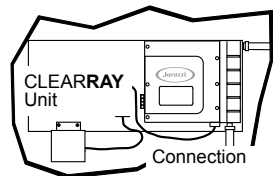

Figure 14.5b
1. Turn the breaker to the spa OFF. DRAIN YOUR SPA. Disconnect the CLEARRAY System from the controller, Figure 14.5b.